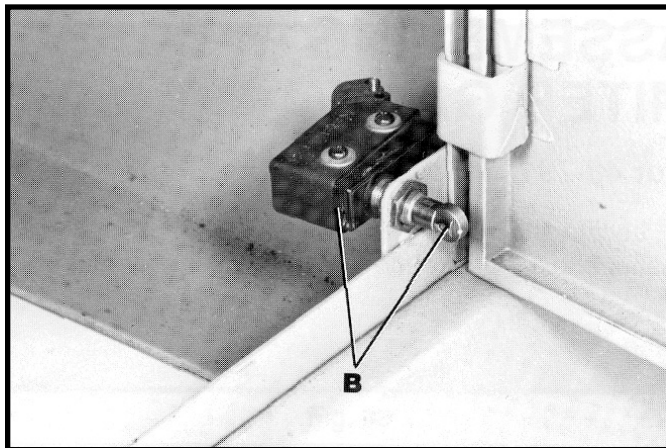

Fig. 41
1. Open the cabinet door. **NOTE:** A limit switch (B) Fig. 41, is provided which prevents the machine from being turned on when the right hand cabinet door is in the open position.